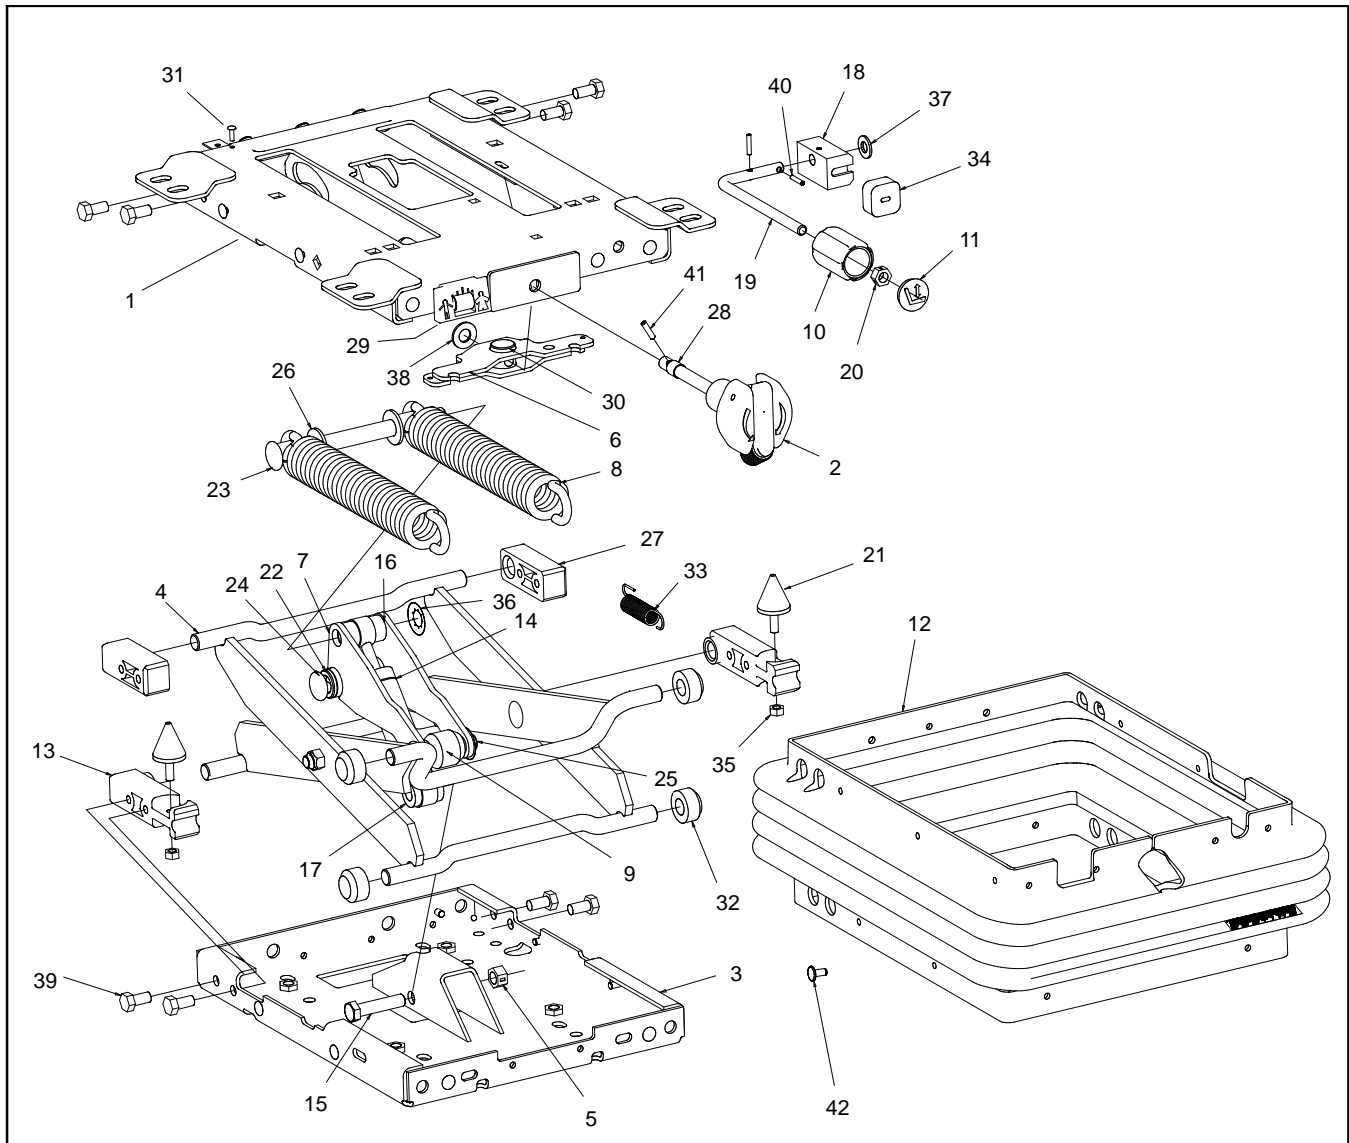

Figure 15
Removal (Figs. 15 and 16)
7. Remove seat suspension components as needed using Figures 15 and 16 as guides.
Installation (Figs. 15 and 16)
1. Install all removed seat suspension components using Figures 15 and 16 as guides.